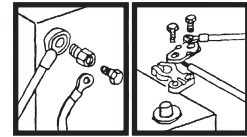

Figure 3
- When attaching cables to battery with side post terminals, use M.P. Adaptor Part #21976 and attach as shown in Figure 3.
- Figure 3 illustrates the method of using a repair type terminal connector which is original equipment on some vehicles.